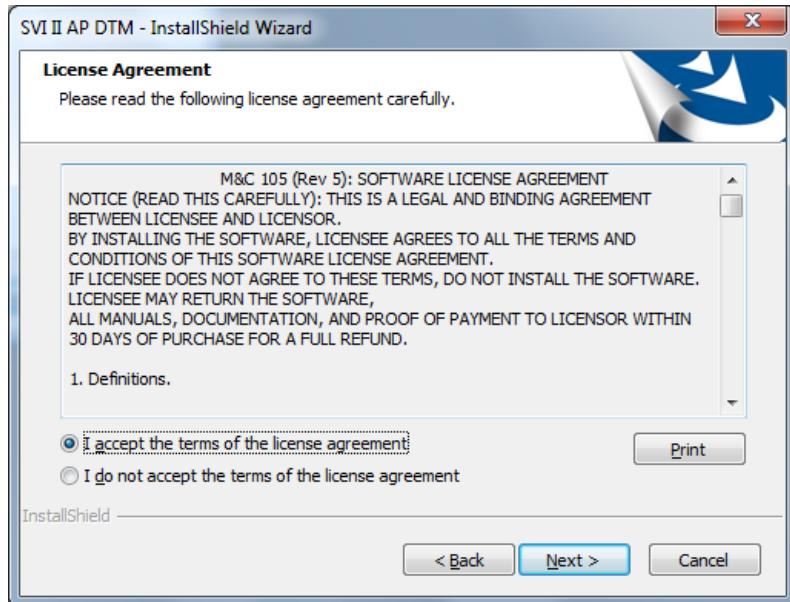

Figure 17 SVI II AP Advanced DTM License Screen
2. Click **Next** and Figure 17 appears.